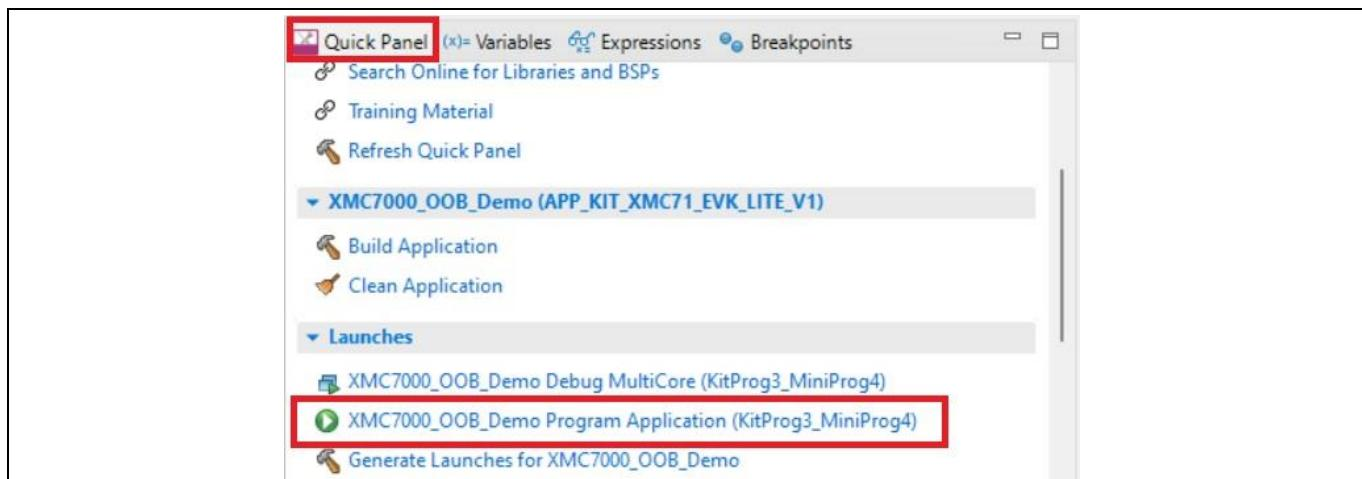

Figure 12 Programming in the ModusToolbox™ software
- To build and program a XMC7100D application in the Project Explorer, select <App_Name> project. In the Quick Panel, scroll to the Launches section and click the <App_Name> Program (KitProg3_MiniProg4) configuration, see Figure 12.